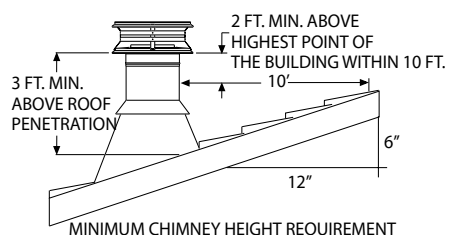

Figure 1
- Determine the minimum chimney height above the roof line. Building codes require a minimum of 3' above the roof penetration and at least 2' higher than any portion of a building within 10'. See figure 1. The termination cap is installed above that point. If chimney extends 5' or more above the roof penetration an extended roof bracket is required. An additional roof bracket is needed every 5'.